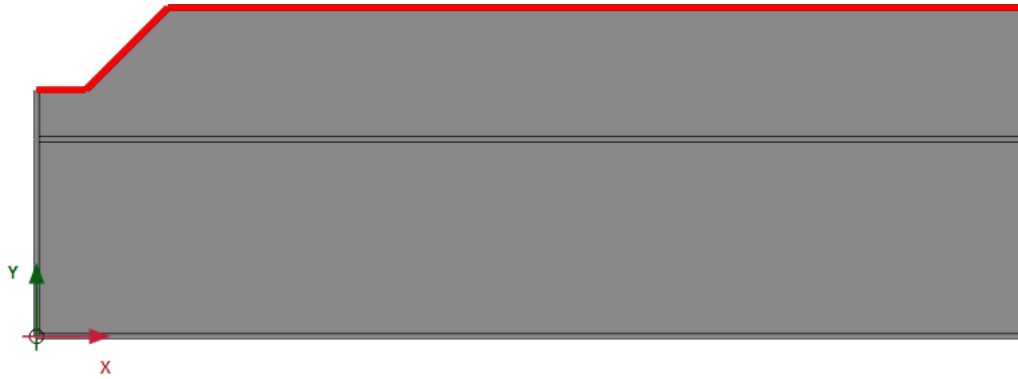

Figure 165: The upper boundary of the model
2. Multi-select the line segments composing the upper boundary of the model as shown in Figure 165 (on page 190).